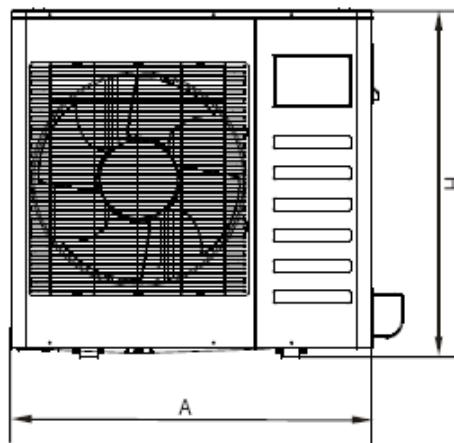
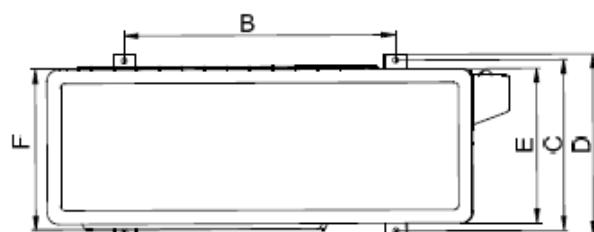

Fig.6-2
Fig.6-4
- The minimum distance between the outdoor unit and obstacles described in the installation chart does not mean that the same is applicable to the situation of an airtight room. Leave open two of the three directions.(Refer to Fig.6-4)
Refer to Fig.6-2~Fig.6-4